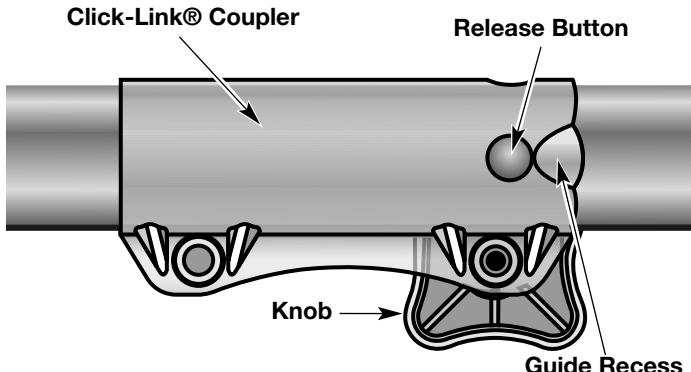

Fig. 11
1. Turn the knob counterclockwise to loosen (Fig. 11).
2. Press and hold the release button (Fig. 11).
1. Turn knob counterclockwise to loosen (Fig.11).
**NOTE:** Aligning the release button with the guide recess will help installation (Fig. 11).